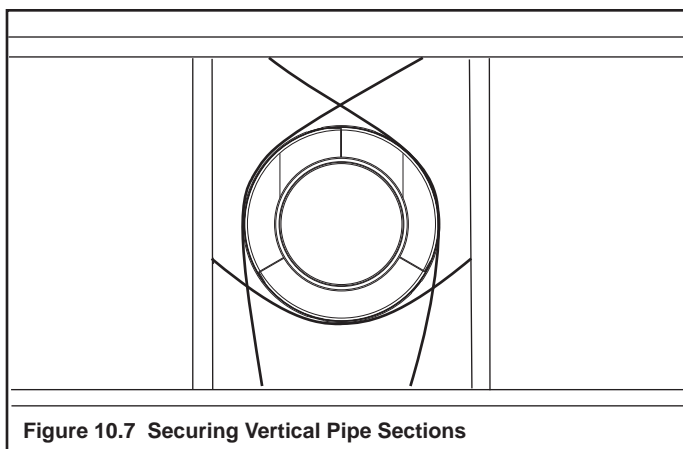

Figure 10.7 Securing Vertical Pipe Sections
- Vent support or plumber's strap (spaced 120° apart) may be used for support. See Figures 10.7 and 10.8.